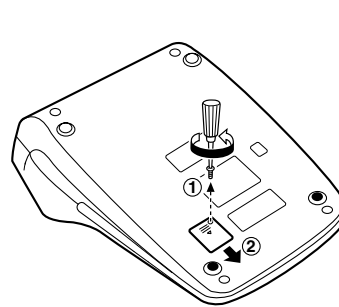

Fig. 1
- Remove the battery cover on the back of the unit. (Fig. 1)